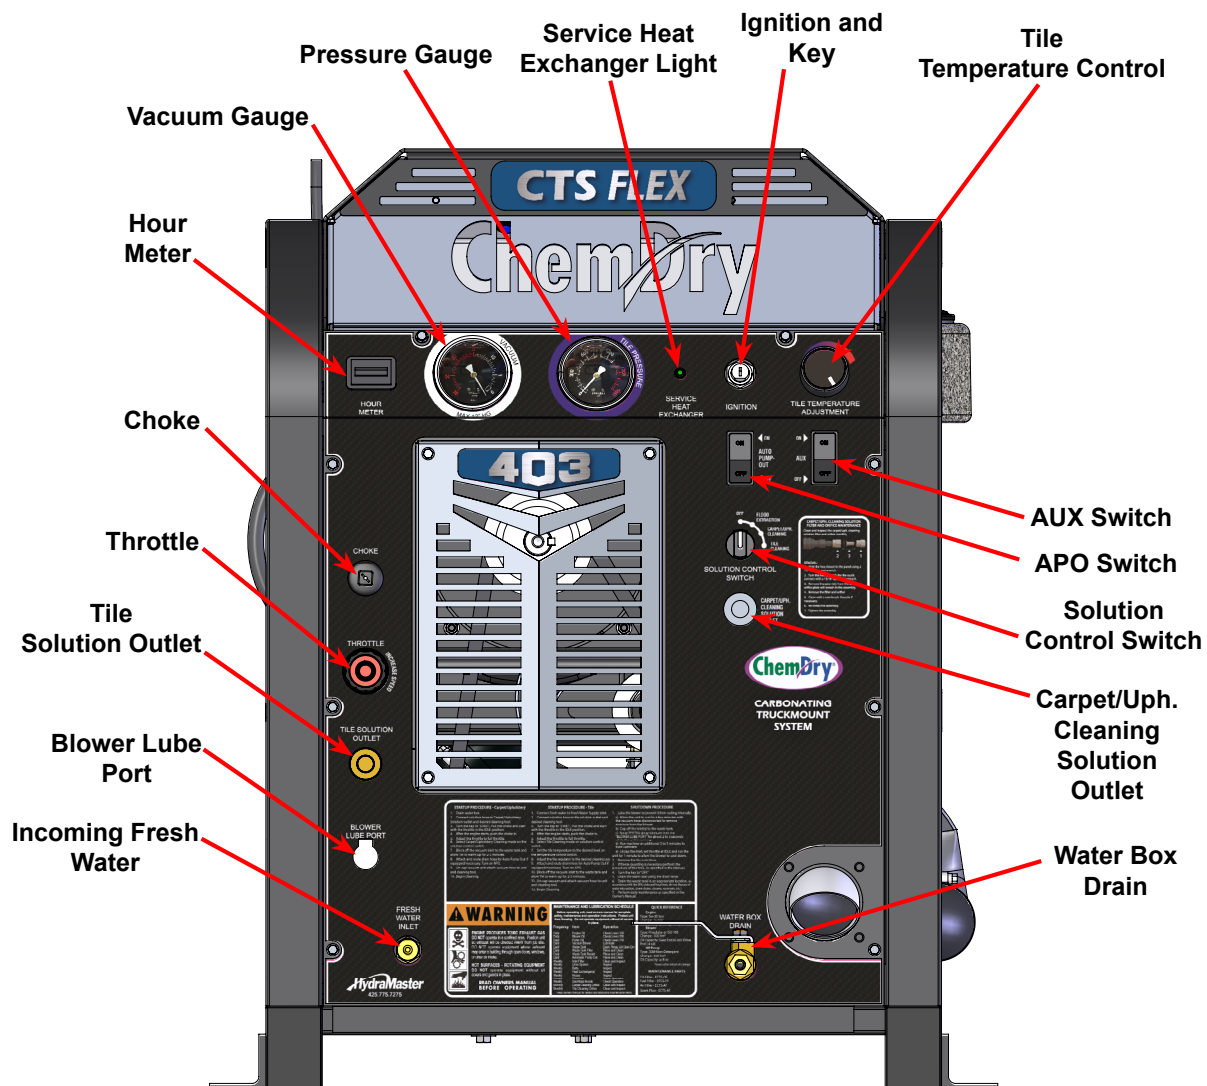

Figure 2-1. CTS 403 Flex Dash Assembly
3. Connect the solution hose to the quick connect Carpet/Uph. Cleaning Solution Outlet (see Figure 2-1).
3. Turn the key to "Start". Pull the choke and start with the throttle in the "IDLE" position. ("IDLE" position – see Figure 2-1).
- c. Spray a LPS TKX spray lubricant into the "BLOWER LUBE PORT" for about 2 to 3 seconds while the unit is running (See Figure 2-1).